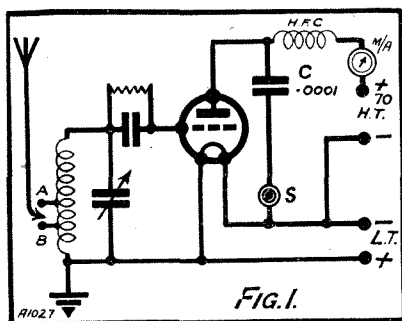

FIG. 1.
The circuit used is illustrated in Fig. 1, and you will see that it is of a very simple nature. The tuning coil has two alternative tappings for the aerial, giving two different degrees of coupling, and the first step was to determine the effect of adding a .0001-mfd. fixed condenser (C) as a bypass with the aerial tapping connected to the point A (the larger tapping point).